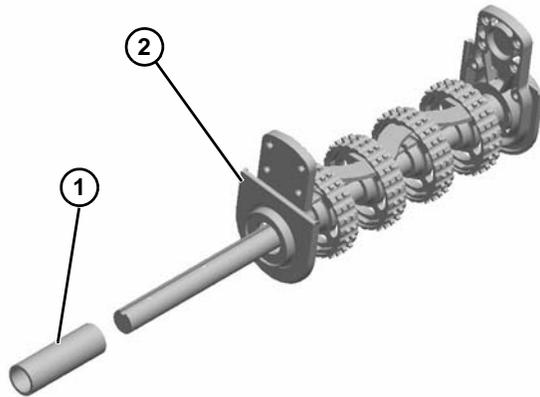

Figure 41
- Slide off tube spacer (Figure 41, item 1) and tail through plate (Figure 41, item 2).